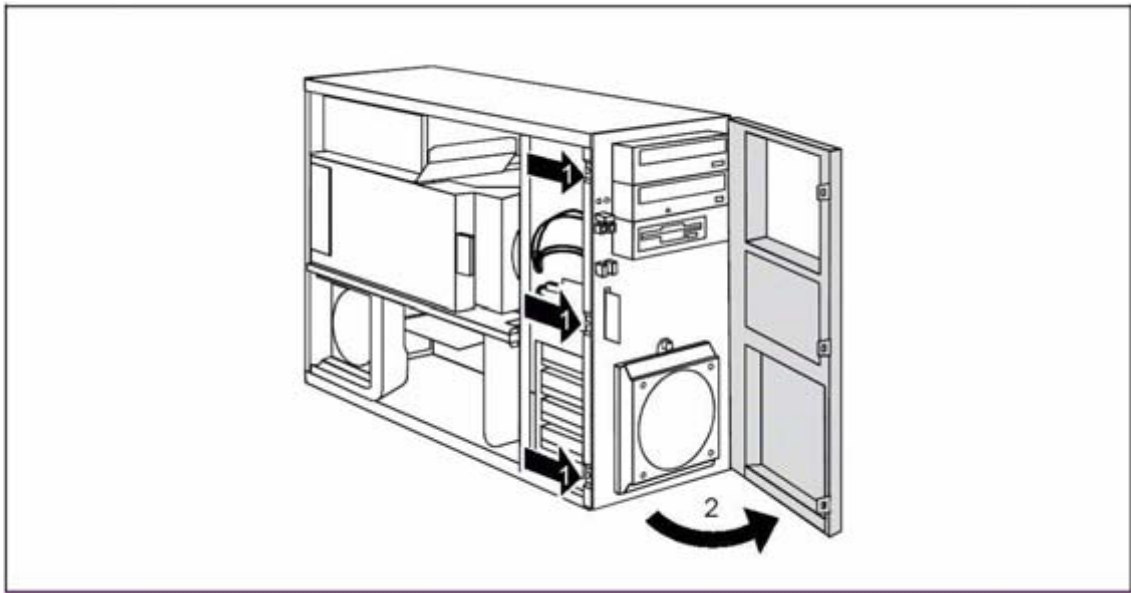

Fig. 41: Opening the front panel M450_
3. Detach the three locking tabs on the left side of the front panel (1/ Fig. 41 / p. 72).
4. Fold open the front in the direction of the arrow (2/ Fig. 41 / p. 72).